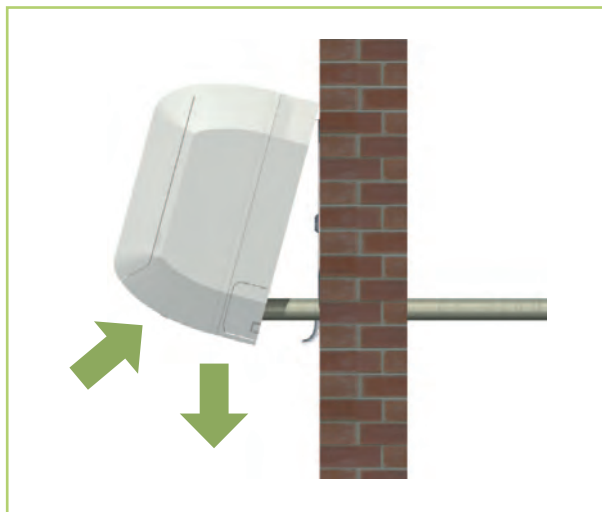

Fig. 31: Horizontal positioning
5. ➤ Check again that the unit is level. (Fig. 31)